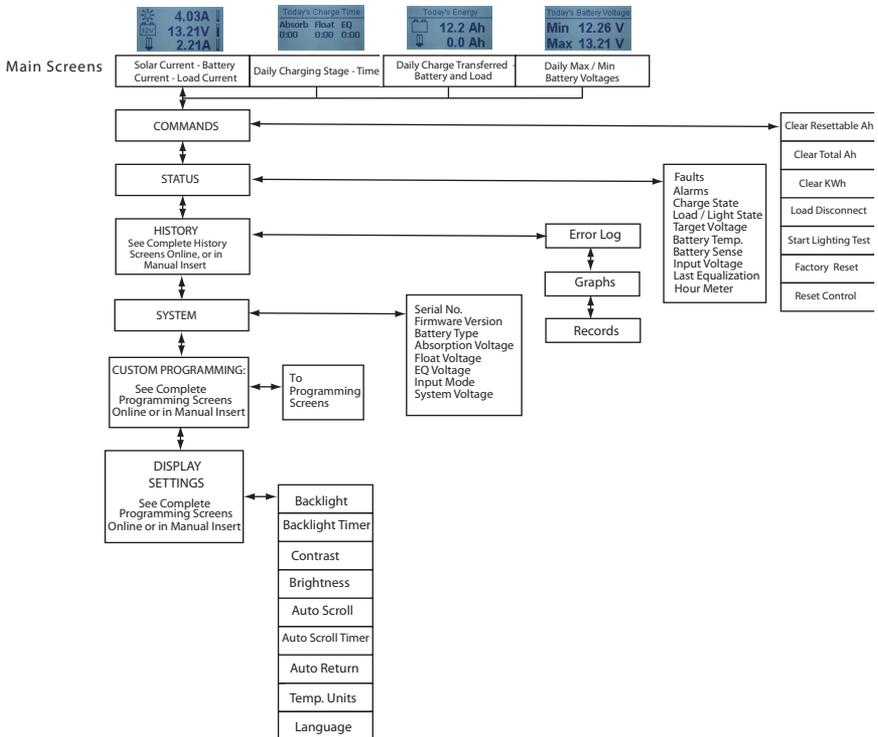

Figure 4-7. Simplified Meter Map. For metered models, see the included complete meter map insert, also available in the ProStar MPPT support documents at:
- Extensive settings adjustment and information as shown partially in Figure 4-7 below: